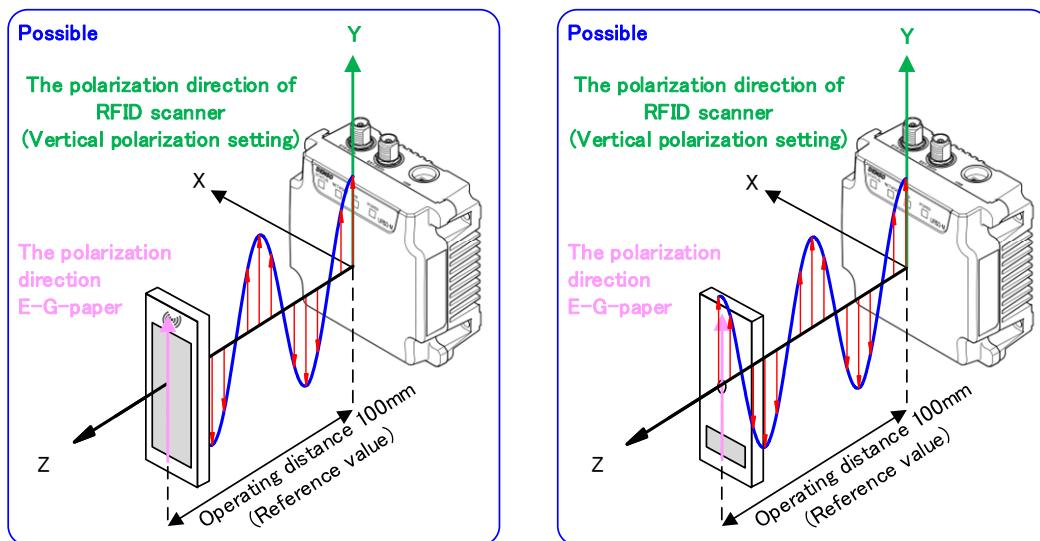

Figure 7.1 An Example of Good Communication Arrangement
- If the E-G-Paper is placed upright in the Y-axis direction, good communication can be achieved. Good communication can also be achieved either when the display side of the E-G-Paper is facing RFID scanner or when it is facing the same direction as the RFID scanner. Referring Figure 7.1.